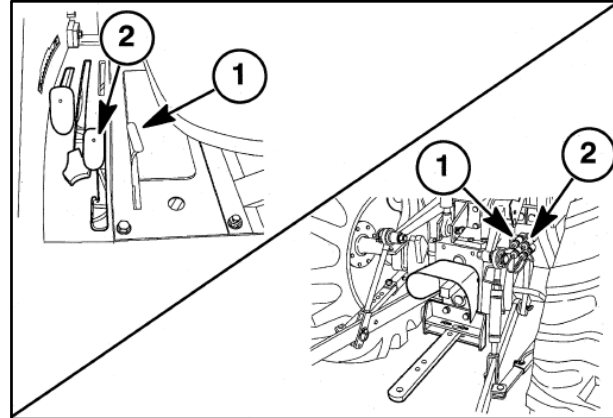

Figure 2-58
Your tractor can be equipped with one, two or three rear remote valves. The control lever(s) are located on the right-hand control pod, #1 remote (1) in Figure 2-58, #2 remote (2) in Figure 2-58.